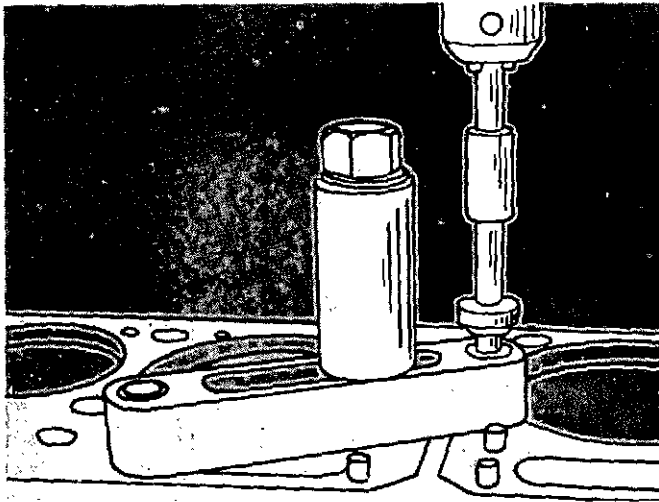

Fig. 1-32. Cut The Water Hole.
7. Engage the drill adapter into the counterbore cutter, Fig. 1-32.